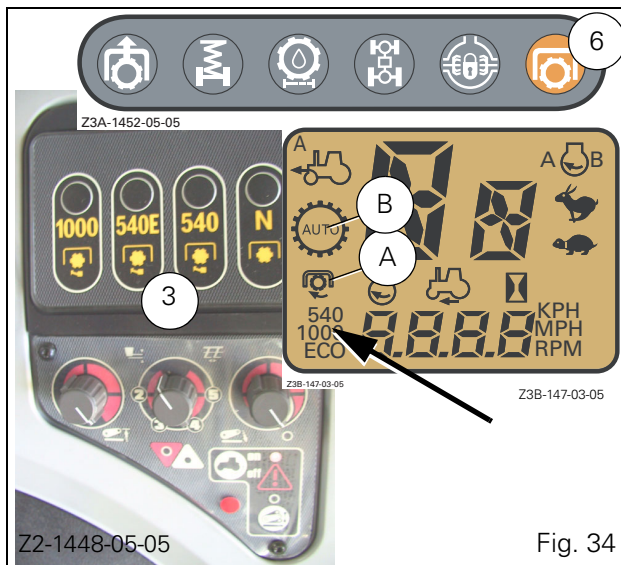
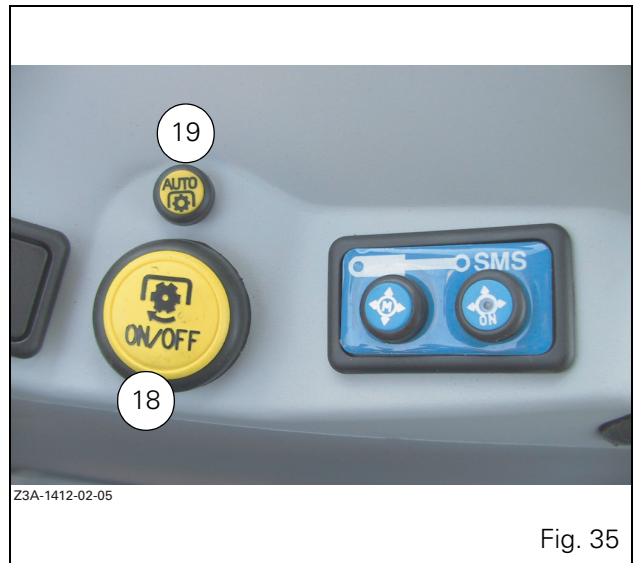

Fig. 34
Fig. 35
The PTO can be engaged and disengaged independently of the transmission. 540 rpm, 540E rpm and 1000 rpm speeds can be obtained by selecting the appropriate speed with buttons Ref. 3 (Fig. 34). The relevant display appears on the digital display and the instrument panel indicator light Ref.6 flashes.
Press the push-button (18 Fig. 35). The PTO engaged indicator light (6 Fig. 34) stops flashing and stays permanently on. An engaged symbol simultaneously appears on the digital display (A Fig. 34). The clutching process depends on the length of time the push-button is pressed down:
To stop the PTO, press the push-button (18 Fig. 35) again.
1. Press the PTO engage switch (18 Fig. 35) after having selected a PTO speed. The PTO engaged indicator light (6 Fig. 34) remains permanently lit.
3. Press the automatic mode engagement push-button (19 Fig. 35). The AUTO symbol appears on the digital display (B Fig. 34).
As soon as the linkage is in Lift position, the PTO automatically stops and the indicator light (6 Fig. 34) flashes.
To re-engage the power take-off, activate the button (18 Fig. 35) in the cab or the external control button (G) for 6 seconds at least.